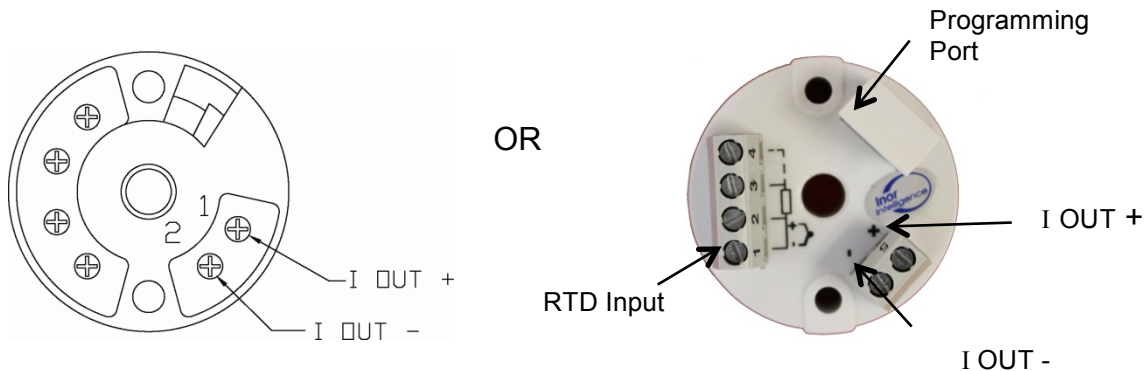

Fig. 8 – DST620/660 transmitter connection
8.3.1. Connection is made by hardwiring to the transmitter power supply terminals as shown in Figure 8. A ½” NPT female fitting on the side of the enclosure allows access to connections. This connection should be sealed to prevent moisture, water or dust entry. We recommend using a liquid-tight conduit fitting or cable gland for wire entry.